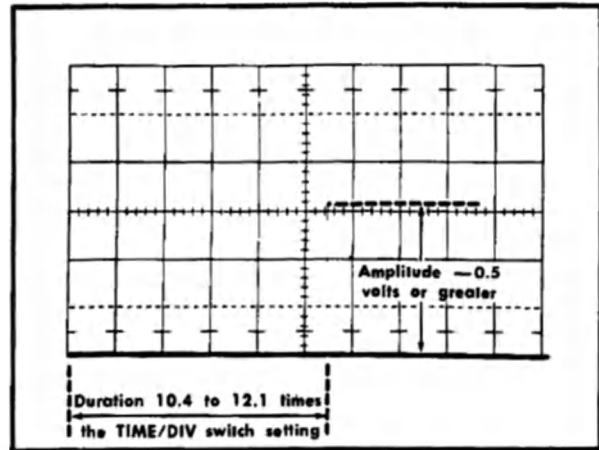

Fig. 5-21. Typical test oscilloscope display when checking the gate output signal. Vertical deflection, 0.2 volts/division; sweep rate, 2 milliseconds/division.
- CHECK—Test oscilloscope display for 2.5 divisions or greater amplitude with the top of the waveform at the zero volt level. Gate duration should be 5.2 to 6.05 divisions (-0.5 volt or greater amplitude with duration of 10.4 to 12.1 times the TIME/DIV switch setting; see Fig. 5-21).